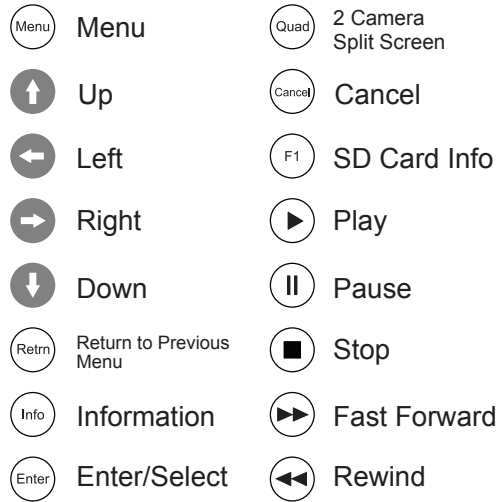

FIG. 12
- 1 Press 'Menu' on the remote. (FIG. 12)
- 1 Press **'Menu'** on the remote. (FIG. 12)